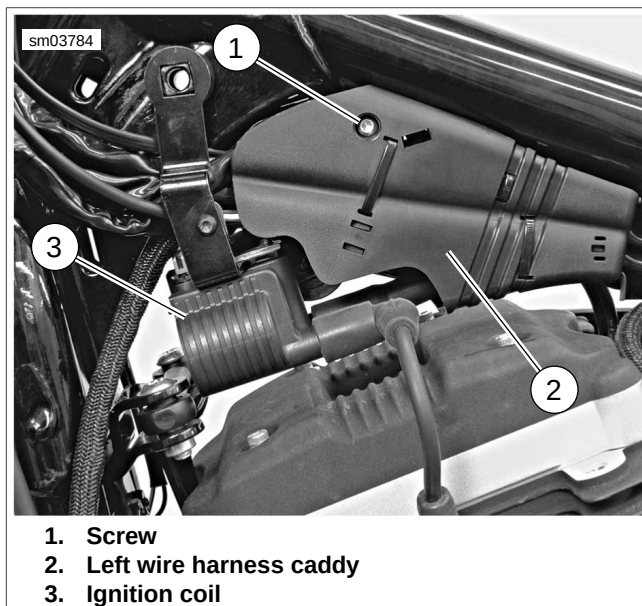

Figure 6-42. Ignition Coil and Left Wire Harness Caddy (XL Models Only)
5. **XL models only:** See Figure 6-42. Remove screw (1) securing left wire harness caddy (2) to right wire harness caddy. See 6.33 ELECTRICAL CADDIES. Carefully disengage left wire harness caddy and pull away from frame backbone.
8. **XL models only:** See Figure 6-42. Mate left wire harness caddy (2) to right wire harness caddy. Secure with screw (1) and tighten. See 6.33 ELECTRICAL CADDIES.